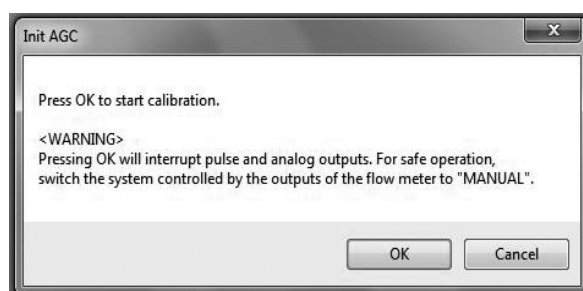

Fig. 3-65
- (3) Click "OK" button. By clicking it, the message box (Fig. 3-65) will be displayed.